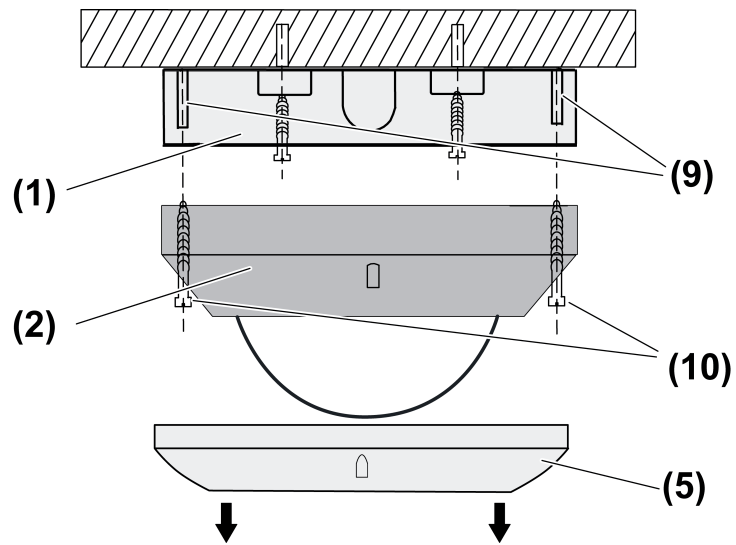
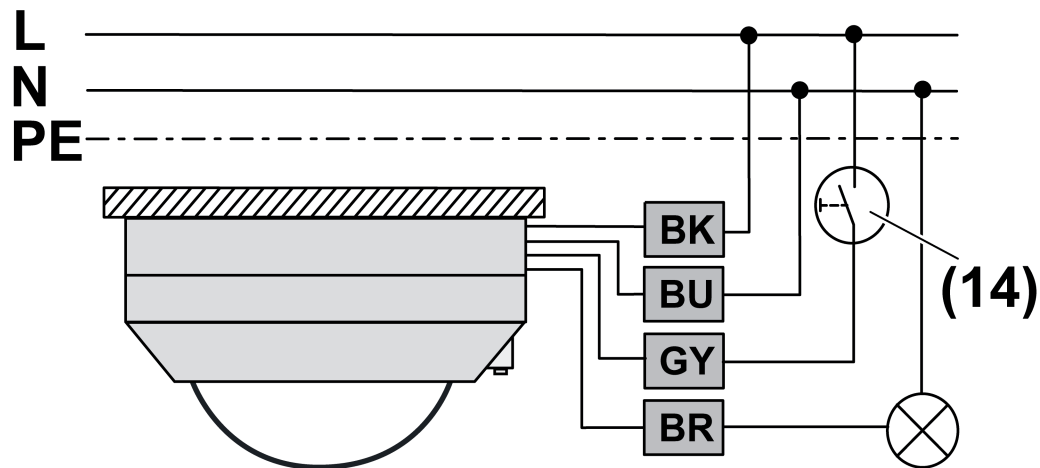
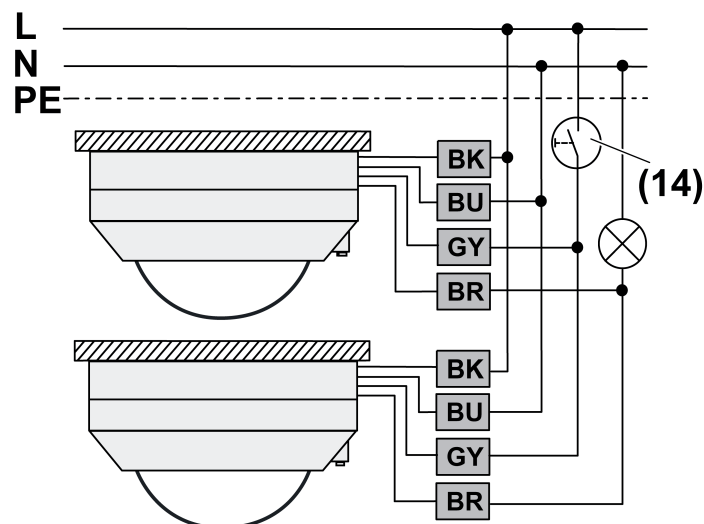

Figure 7: Fitting
Figure 9: Connection diagram, single device
Figure 10: Connection diagram, parallel circuit for expanding the detection area
- (1) Connection box
- (2) Sensor top
- (5) Decor ring
- (9) Fastening pins
- (10) Screws
- Pull off the decor ring (5) (figure 7).
- Loosen the screws (10) (figure 7).
- Connect the sensor top according to the connection diagram (figure 9) or switch the sensor tops according to the circuit diagram (figure 10).
- Optionally, connect the installation button (14) (figure 9) or (figure 10). This is only necessary if manual operation is also desired.
- i** In the case of single devices, a 2-wire extension can be used as an alternative to the installation button (14).
- Screw the sensor top (2) to connection box (1) with screws (10) and mounting pins (9) (figure 7).